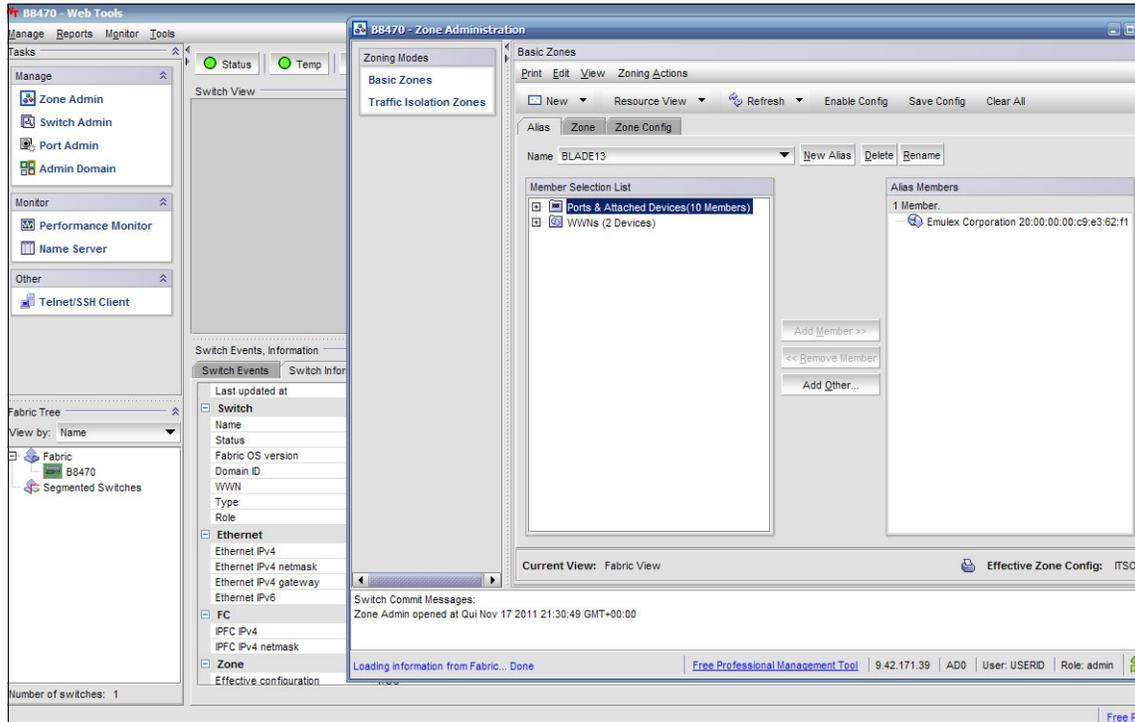

Figure 10-136 Alias page in the Zone Administration window
4. Create an alias for each port in the Zone Administration window (Figure 10-136):